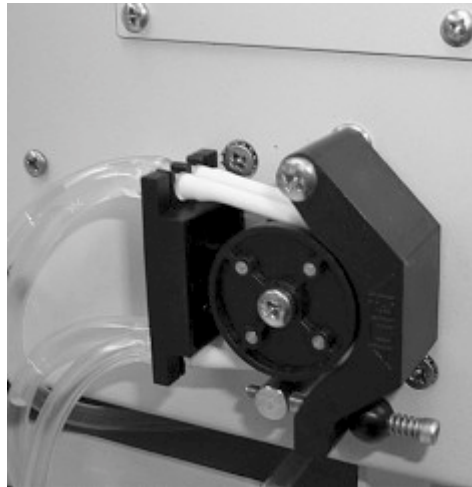

Figure 1-20
18. Remove the defective pump by removing the two outer screws on the outside rear of the pump. Also, remove the screw that is located in the center of the pump head rotor assembly. See Figures 1-20
23. Install the new pump into your ASX500/510, put the two conical star washers underneath the two outer screws that hold the pump in place. See Figures 1-20.